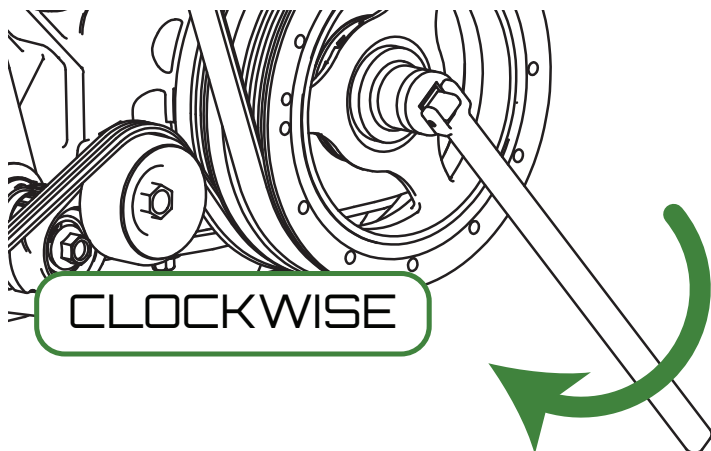

Figure 6 - Rotating the Engine Crankshaft with a Breaker Bar
- Using a $\frac{1}{2}$ inch-drive breaker bar or ratchet with a 24 mm ($\frac{15}{16}$ inch) socket, manually turn the engine in the clockwise direction while carefully inspecting clearance / interference. This is shown in Figure 6.